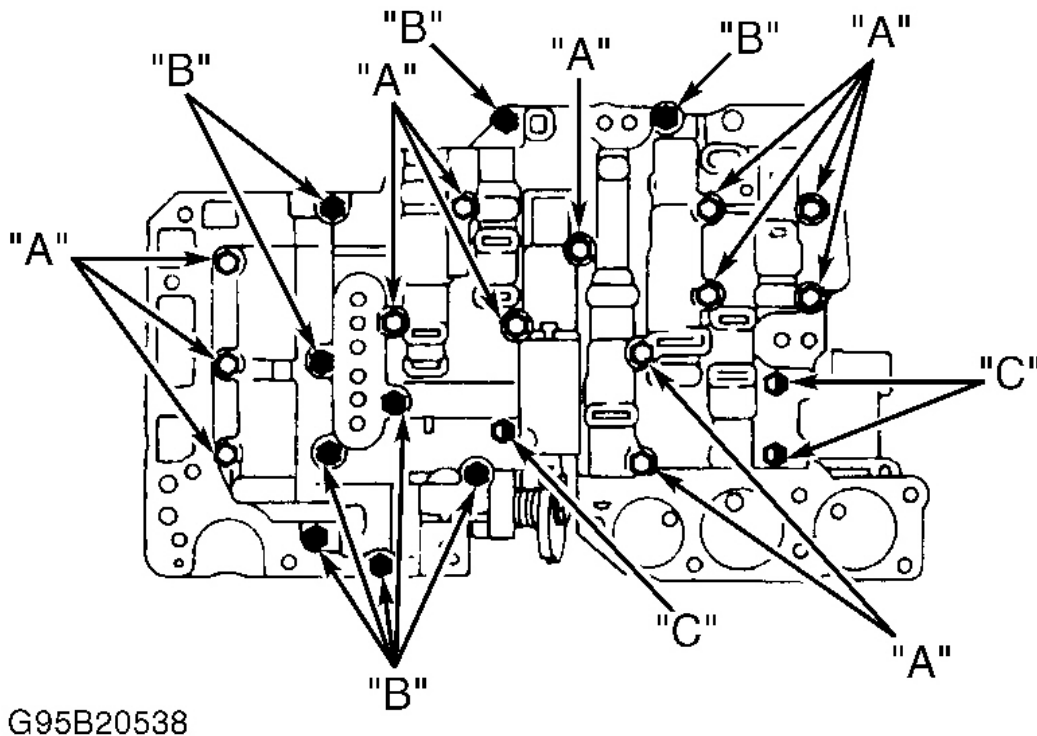

Fig. 45: Identifying Control Valve Assembly Bolt Length
1. Remove detent spring cover, detent spring and manual valve from control valve assembly. See **Fig. 44**. Remove 25 lower valve body-to upper valve body bolts. See **Fig. 45**. Note bolt length and location for reassembly reference.
3. Ensure proper bolt length is used in correct location. Length of bolt "A" is 1.50" (38.0 mm). Length of bolt "B" is .79" (20.0 mm). Length of bolt "C" is 1.10" (28.0 mm). See **Fig. 45**. Tighten bolts to 57 INCH lbs. (6.4 N.m).
2. Ensure proper bolt length is used in correct location. Length of bolt "A" is 1.50" (38.0 mm). Length of bolt "B" is .79" (20.0 mm). Length of bolt "C" is 1.10" (28.0 mm). See **Fig. 45**. Tighten bolts to 57 INCH lbs. (6.4 N.m).